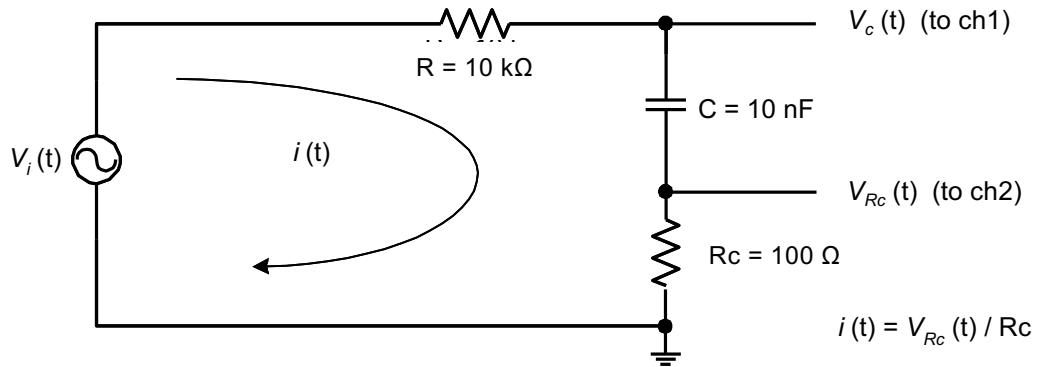

Figure 5.3
- iii) Draw a diagram of the actual physical layout of the circuit shown in Figure 5.3, including the protoboard, instruments and connecting wires.
- iv) Fill in the theoretically expected values missing in Table 5.1 (refer to Figure 5.3)
Because both vertical channels of the oscilloscope have one input terminal grounded, all measurements made by the oscilloscope use the ground as a reference (i.e. no “floating” measurements are possible). Currents cannot be measured directly with an oscilloscope. To allow monitoring of the current, $i(t)$, a small resistor, R_c is placed in series with the capacitor, C , as shown in Figure 5.3 and its voltage is monitored. As long as $R_c \ll |X_C|$ and $R_c \ll R$, the voltage drop across R_c is small compared to the other voltages, and the effect of the resistor, R_c on the circuit can be ignored. The current, $i(t)$ can be obtained by $i(t) = \frac{1}{R_c} V_{Rc}(t)$.
Step 2: Connect the circuit in Figure 5.3 as you have drawn it in part iv) of the preparation. Display simultaneously the capacitor voltage, $v_c(t)$, on CH1, and the voltage, $v_{Rc}(t)$ across the resistor, R_c on CH2.